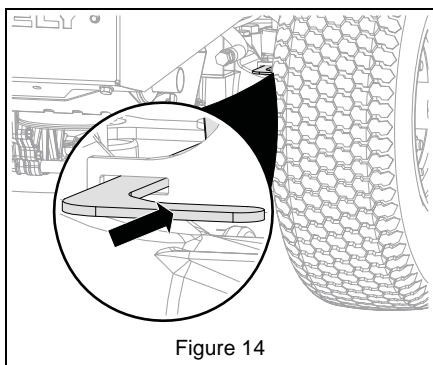

Figure 14
5. Return transaxle bypass levers to operating position. See Figure 14.